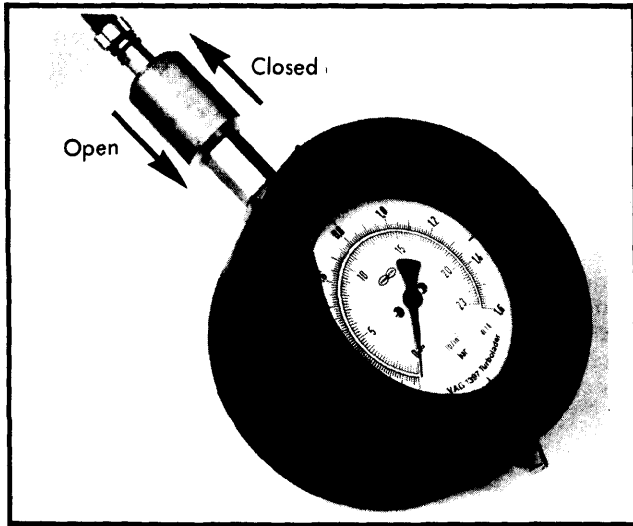

Fig. 5 Turbocharger Boost Pressure Gauge (VW1397)
1) To test the turbocharging system, use a pressure gauge (VW1397) calibrated in both psi and bar. The gauge is equipped with a valve which locks pressure measurement when closed. See Fig. 5.